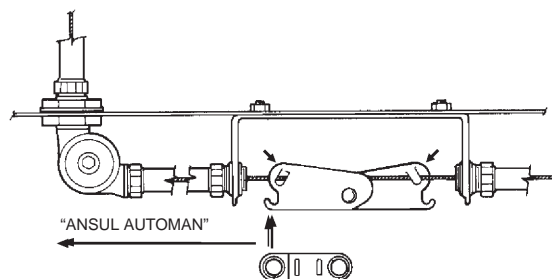

FIGURE 14
7. Install detector scissor assembly as shown in Figure 14. Note that the ANSUL AUTOMAN release is located on the left side of the detector bracket. **Slightly** crimp the two assembly “boot-hooks” over the cable with pliers so the cable is captured under each hook. **Make certain the linkage assembly can still slide side to side on the cable.** Center the assembly in the detector bracket.